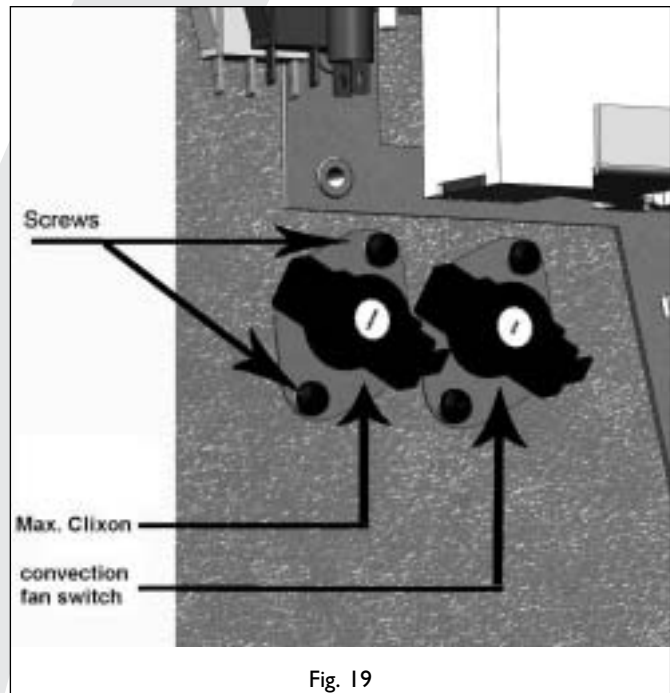

Fig. 19
- Take out the 2 screws of the mounting plate (see fig. 19 of Power Flue 12/16kW).
- Take out the 2 screws on the mounting plate (see fig. 19);